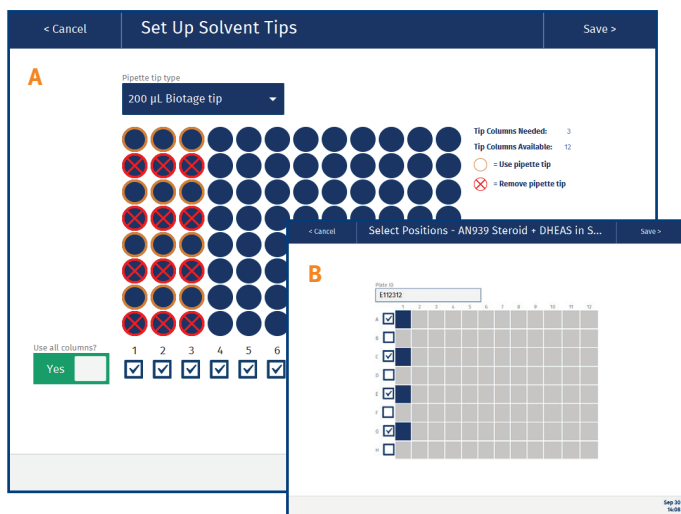

Figure 40. The Set Up Solvent Tips view (A) when running individual samples in position A1, C3, E5, and G1 on the extraction media (B).
If running individual samples, it is important that the pipette tips are loaded correctly. The software highlights the positions that must contain pipette tips and the ones that must be empty; see Figure 40.
-  This pipette tip will be used. If green, it is reused from the previous run for the solvent listed below the tips; see Figure 40.